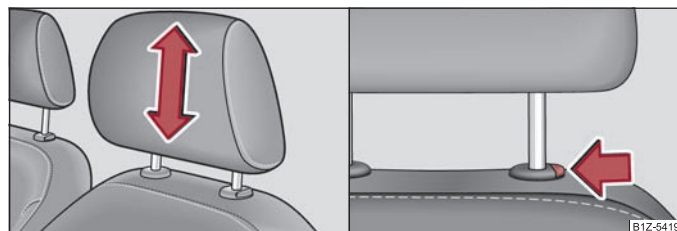

Fig. 58 Head restraint: Adjusting/pulling out
- Grasp the side of the head restraint with both hands and push it in upward direction as desired ⇒ fig. 58 - left.
- Move the head restraint downwards if required by pressing and holding the safety button with one hand ⇒ fig. 58 - right and by pressing with the other hand the head restraint downwards.
- Press the locking button in the direction of arrow ⇒ fig. 58 - right and pull the head restraint out.